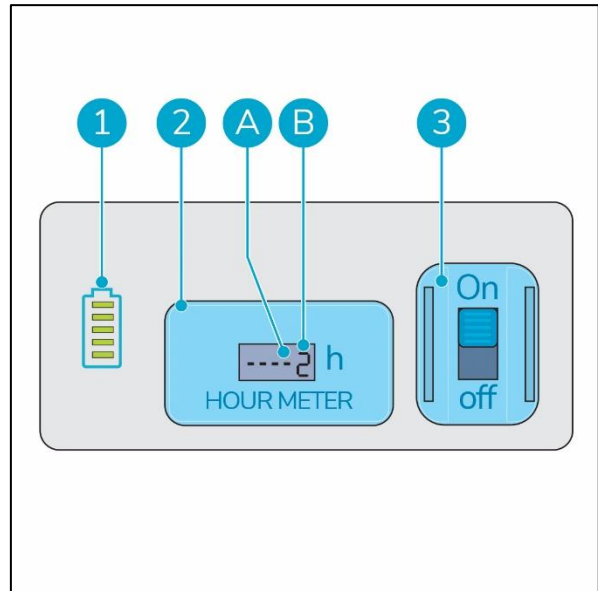

Figure 5
2. Hour meter. The counter on the right (Figure 5, pos B) counts in 6 minute cycles. This means that if the display shows a “1”, the i-cover® 2.5 has run for 6 minutes. After 10 cycles, the second counter from the right (Figure 5, pos A) will show a “1”, this indicates 1 hour. The counter on the right (Figure 5, pos B) starts again at “1”.